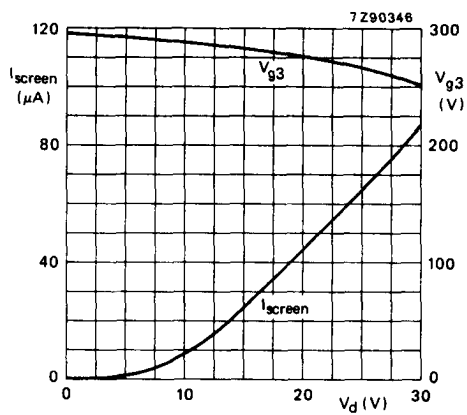

Fig. 5 Screen current (I_{screen}) and focusing voltage (V_{g3}) as a function of grid drive voltage (V_d); typical curves.
4. An actual focus range of approx. 50 V should be provided on the front panel. V_{g3} decreases with increasing grid drive (see also Fig. 5).
5. Intensity control on the front panel should be limited to the maximum useful screen current (approx. 80 μ A; see also Fig. 5). It is to be adjusted either by the grid drive (up to 30 V) or for maximum acceptable line width. The corresponding cathode current or $I_{g2,g4,g5}$ (up to 500 μ A) depend on the cut-off voltage and cannot be used for control settings.